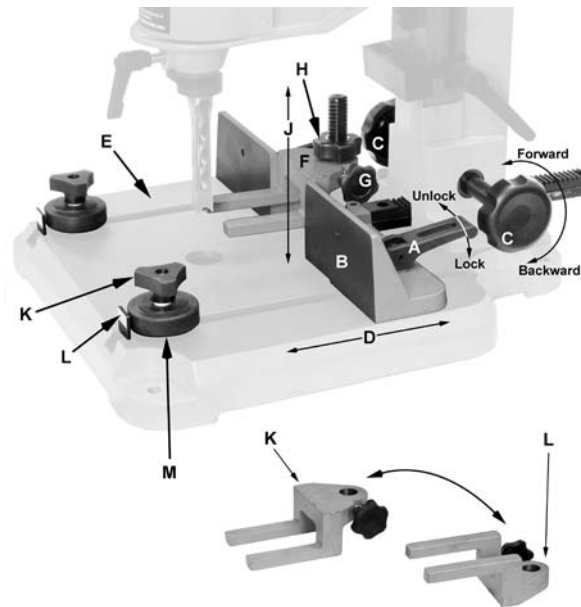

Figure 13
6. Position *spacers* (B) so they rest against the bushing above the *lip* (J).
7. Insert the *auger* (K) into the *chisel* (L). Then insert the assembly through the bushing (E). Using gloves or a block of wood, press up on the auger as far as it will go. The shank should slide into the opening in the bottom of the chuck (M).
8. Using the chuck key, tighten the *chuck* (M) to secure the *auger* (K).
9. Move the *spacers* (B) away from the *bushing* (E), push the *chisel and bushing up* against the *head* (C); then tighten the *lock screw* (D).
**Hint:** Set the *slot* in the side of the *chisel* to the *left* or *right* if the workpiece is to be moved laterally and *front* or *back* if it is to be moved from front to back. The workpiece should be moved so that the *slot* in the chisel is releasing chips into the *already cut* part of the workpiece (see *Figure 13*).
Referring to Figure 13: